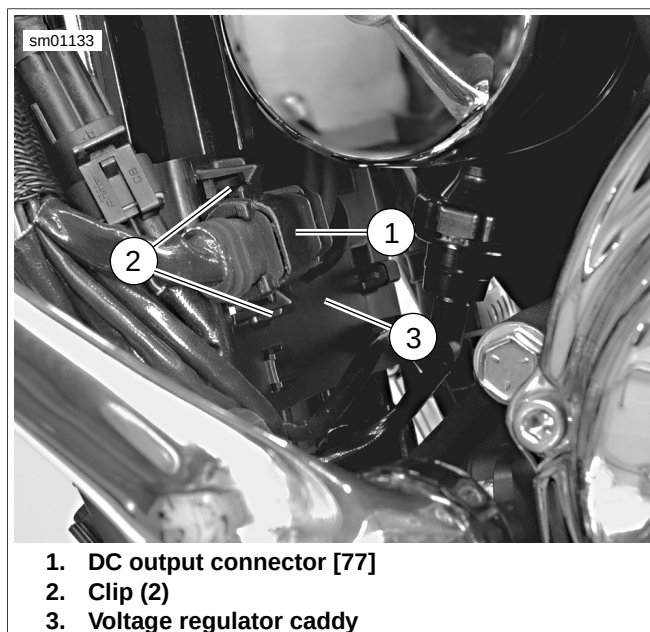

Figure 6-4. DC Output Connector [77] Location
3. See Figure 6-4. Gently pry apart clips (2) and remove DC output connector [77] (1) from voltage regulator caddy (3). Lift external latch on pin housing and separate connector halves.